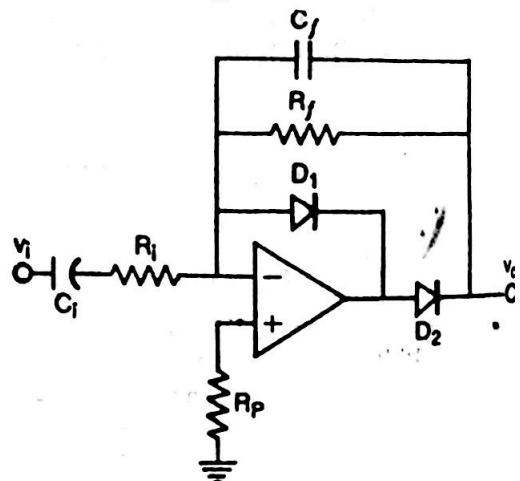

Fig. 43.
~~(2) Inverting Negative Polarity HWPR~~: Circuit for inverting negative polarity HWPR is shown in fig. 43. Waveforms and characteristics are shown in fig. 41.